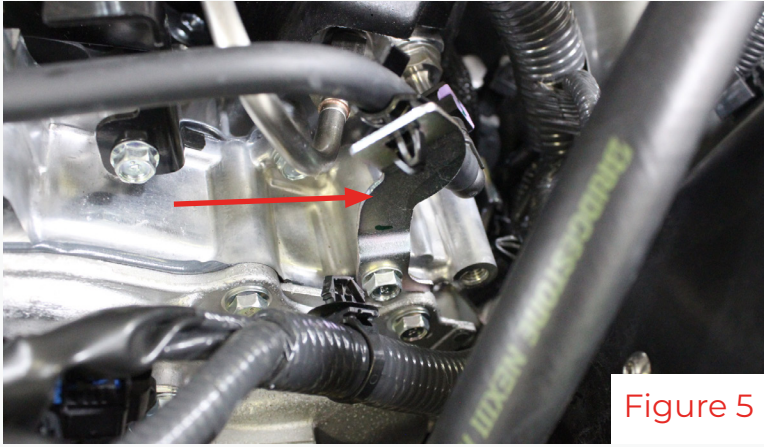

Figure 5
3. Remove the fuel line bracket(fig 5 & 6).